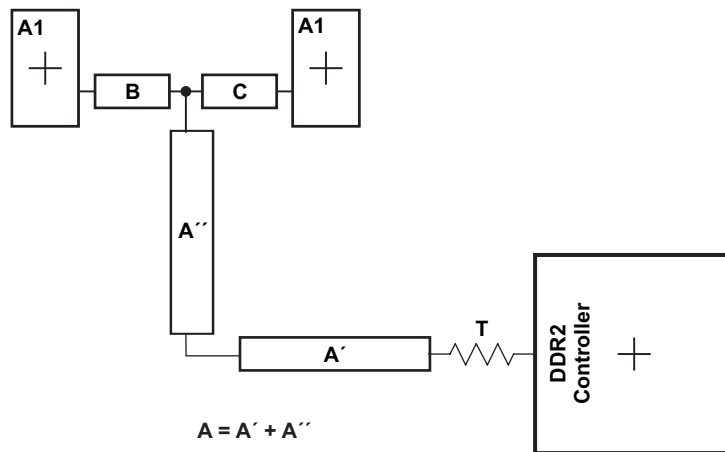

Figure 9-52. CK and ADDR_CTRL Routing and Topology
Figure 9-52 shows the topology of the routing for the CK and ADDR_CTRL net classes. The route is a balanced T as it is intended that the length of segments B and C be equal. In addition, the length of A (A'+A'') should be maximized.
- (1) The length of segment A = A' + A'' as shown in Figure 9-52.
- (2) Series terminator, if used, should be located closest to the processor.
- (3) Center-to-center spacing is allowed to fall to minimum (w) for up to 500 mils of routed length to accommodate BGA escape and routing congestion.
- (4) CACLM is the longest Manhattan distance of the CK and ADDR_CTRL net classes.